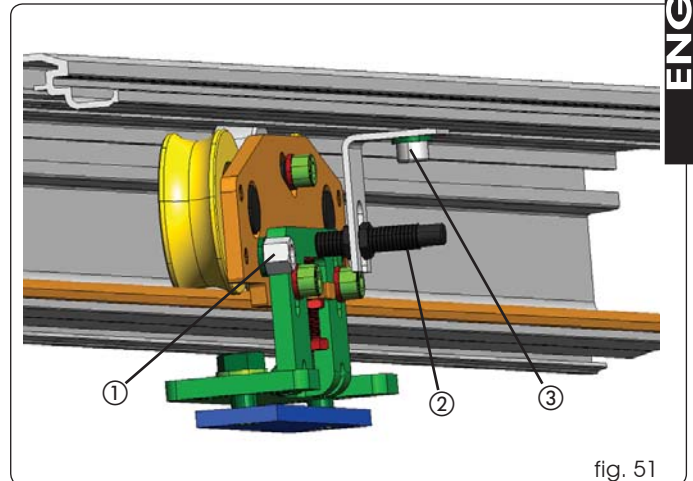

fig. 51
- Screw the magnet on the carriage nearest to the closing contact point, using the threaded hole on the belt fitting (fig.51 ref.①).
- Assemble the sensor to the bracket (fig. 51 ref.②), using the plastic nuts. Inset a threaded plate on the seats of the support profile, and install the bracket, using the screws (fig. 51 ref.③). Check if the sensor is in line with the magnet when the leaf is closed.